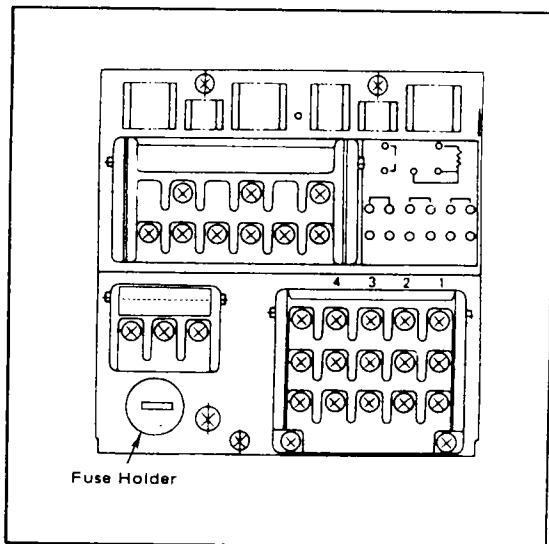

Figure 6-4.
- (2) The fuse is mounted on the recorder rear panel (see Figure 6-4).